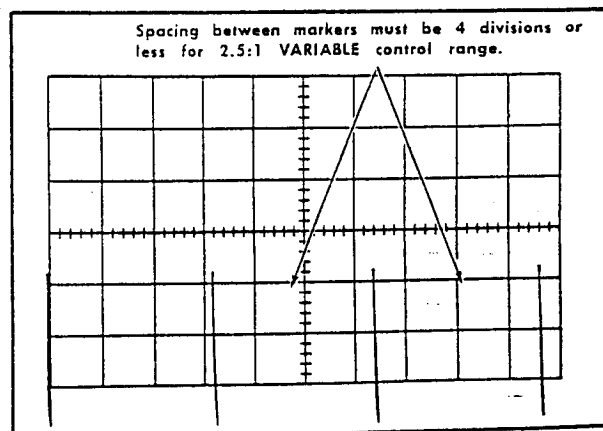

Fig. 5-15. Typical crt display when checking VARIABLE TIME/DIV control range.
f. Check—4 divisions or less between markers (2.5:1 range); see Fig. 5-15. UNCAL A or B light must be on when A VARIABLE control is not in CAL position.
e. Check—4 divisions or less between markers (2.5:1 range); see Fig. 5-15. UNCAL A or B light must be on when B VARIABLE control is not in CAL position.